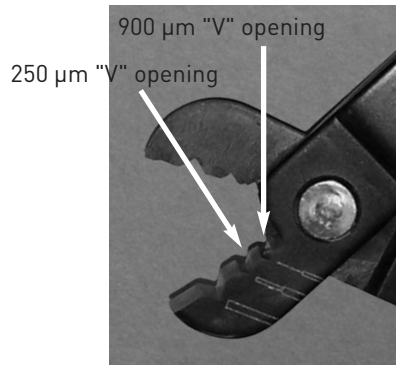

Fig. 1
Step 1. (Fig. 1) Insert fiber into 250 μm "V" opening of the tool.